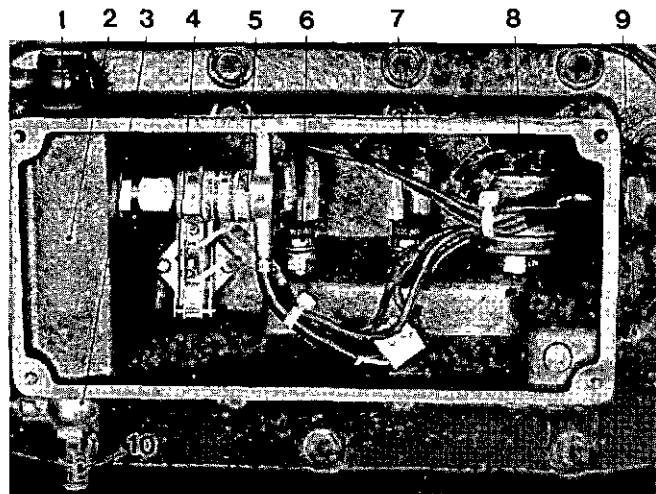

Fig. 22. Protective case (K4) for senders and switches in the lubricating and fuel systems (cover removed).
Oil pressure switch-alarm 14L, fig. 22.
Oil pressure switch-automatic stop 14S, fig. 22.
Temperature switch, lubricating oil – alarm 50L, fig. 22.
46L/B, fig. 22.
The leakage switch should be installed with the arrow (2) pointing upwards. Empty the float housing of any leakage fuel by pushing in the valve (10, fig. 22) under the inlet line before fitting the switch.